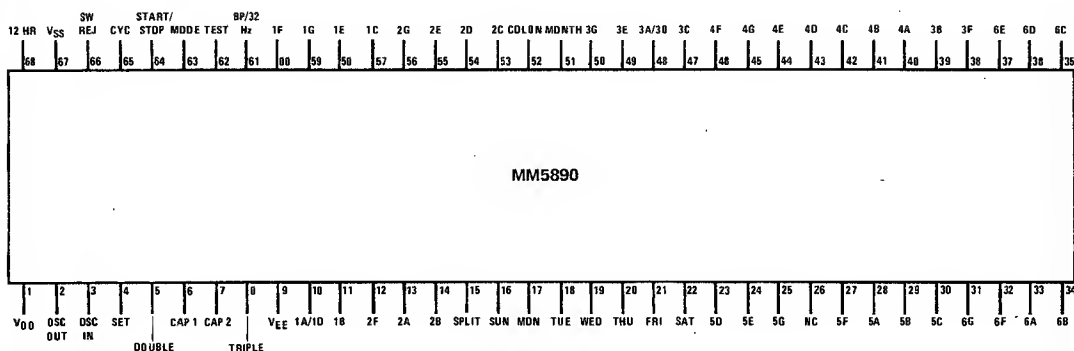
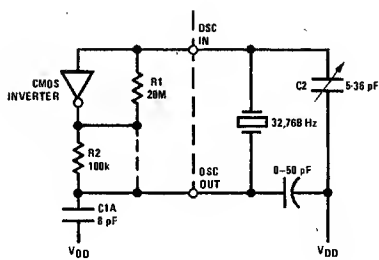

FIGURE 3. Connection Diagram
FIGURE 4. Crystal Oscillator Network
Note 1: In oscillator network shown in Figure 4.
**Time Base:** The precision time base of the chronograph is provided by connecting a crystal controlled RC network to the on-chip CMOS inverter/amplifier as shown in Figure 3. For proper operation the network should be tuned to 32.768 kHz. Resistor R1 is used to bias the on-chip inverter for class A amplifier operation. Resistor R2 is used to: a) reduce the voltage sensitivity of the network; b) limit the power dissipation in the quartz crystal; and c) provide added phase shift for good start-up and low voltage operation. Capacitors C1 and C2 in series provide the parallel load capacitance required for precise tuning of the quartz crystal. The network shown in Figure 4 provides greater than 100 ppm tuning range when used with standard X-Y flexure quartz crystals trimmed for  $C_L = 13 \text{ pF}$ . Tuning to better than 2 ppm is easily obtainable. The 32 Hz output